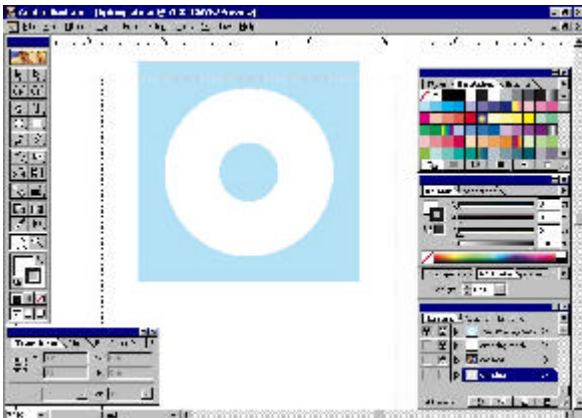

Fig. 5-3 Non Printing layer mask with background color
10) Send the new object to the background of its layer. Select the center hole circle. Select a fill color and delete the line (or make the line color white). Mark the layer for viewing only and not printing (Fig. 5-3). Group the objects and note their coordinates (it may be possible to lock or fix the layer so it cannot be accidentally changed).